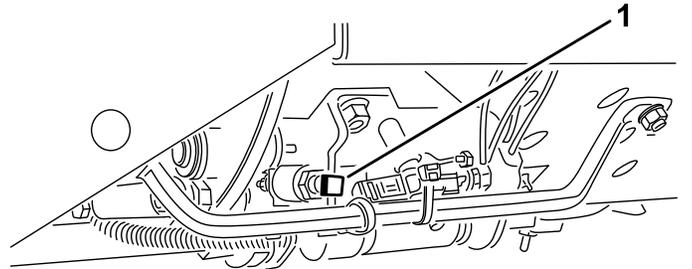

Figure 25
**Important:** The mow speed is set at the factory to 9.7 km/h (6 mph). You can increase or decrease the mow speed by adjusting the speed-stop screw (Figure 25).